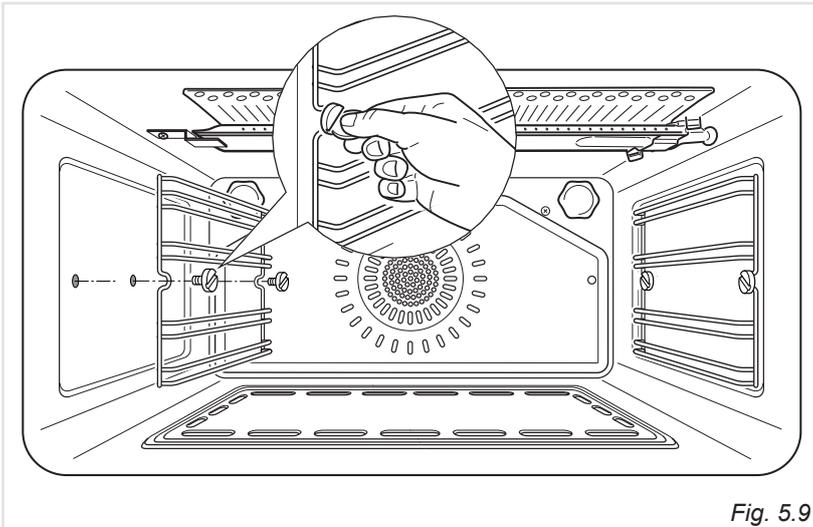

Fig. 5.9
- Assemble the wire racks to the oven walls using the 2 screws (Fig. 5.9).